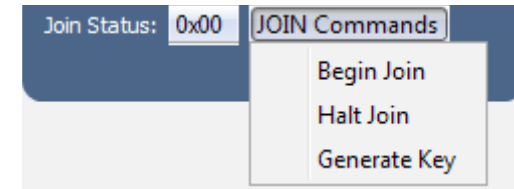

Figure 19: The Master Development System Software Join Commands
11. The Join Commands button sets the Join Process Control options in the CMD register. Clicking on the button opens a menu of the Join commands. Clicking on one of the commands triggers that operation (Figure 19).